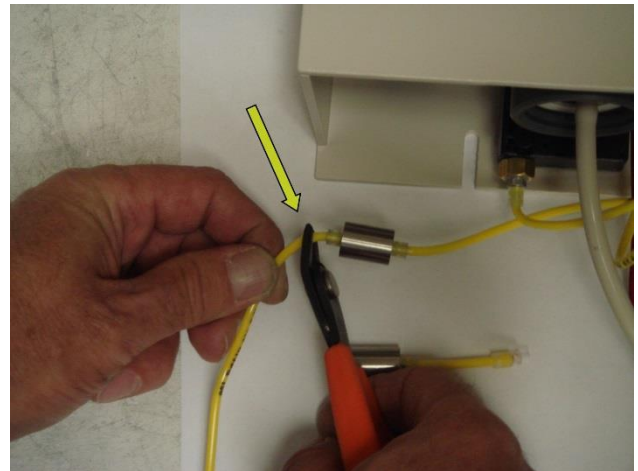

Fig. 3
5. Clip yellow tubing on both sides of regulator. (Fig. 3)